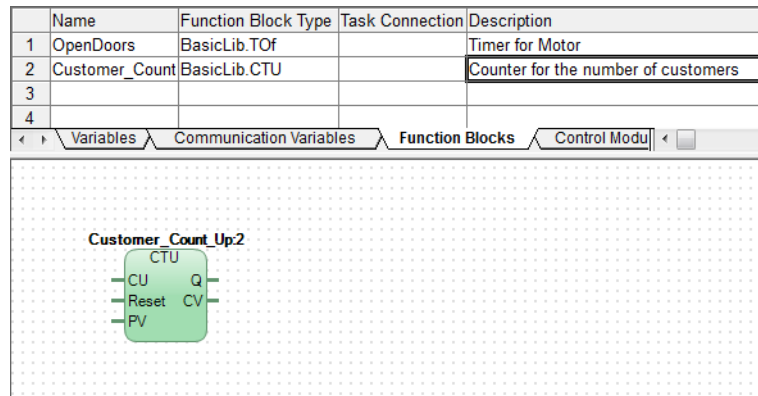

Figure 33. Declare CTU Function Block Type in Number\_of\_Customers page
- Customer\_Count\_Up function block is created as in the Figure 33. Add the description according to Figure 33.